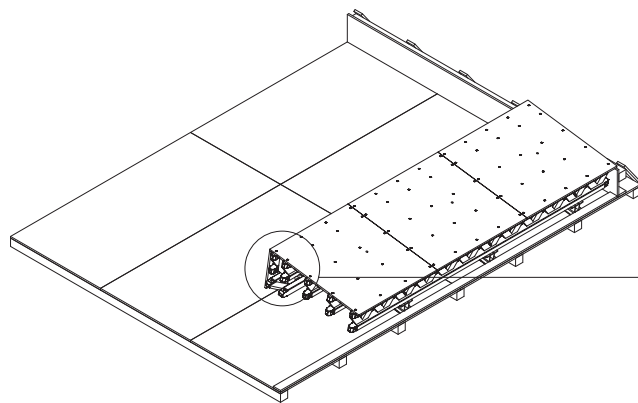

Fig. A2.07
7. Position formlining and then secure. Fix using approx. 10 TSS Torx 6 x 60, or TSS Torx 6 x 60 ZKS per m2. Drill holes with a Ø 20 mm bit. (Fig. A2.07)